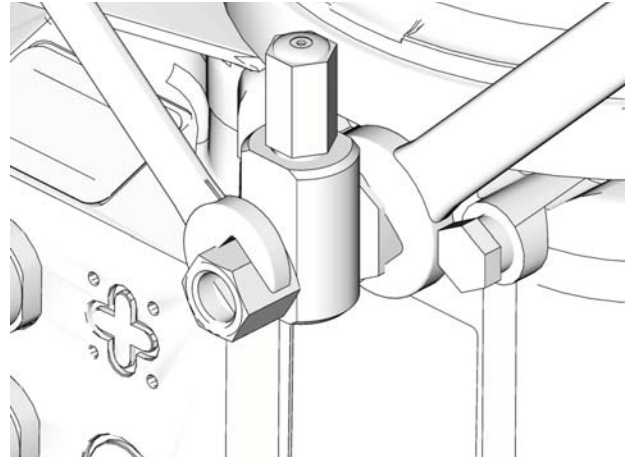

FIG. 8
1. Loosen pump element fitting (FIG. 8).
3. Tighten pump element fitting using two wrenches working in opposite directions (FIG. 8).